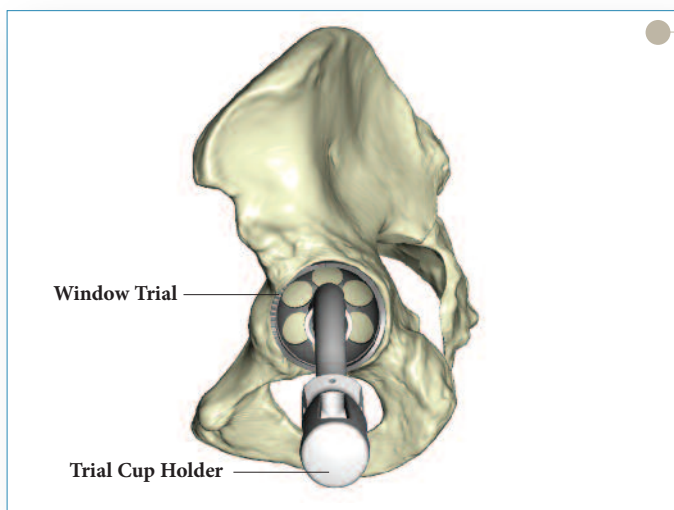

Figure 5
- ▶ Following the reaming procedure, the appropriate Restoration ADM Window Trial of the same diameter as the last spherical reamer used, either left or right, is locked onto the Restoration ADM Trial Cup Holder. This is done by pulling the locking mechanism and releasing it after the window trial is set. The window trial is then placed in the acetabulum to evaluate the size and congruity of the preparation (**Figure 5**). The trial is “windowed” for visualization and assessment of fit, contact and congruency of the trial within the acetabulum.